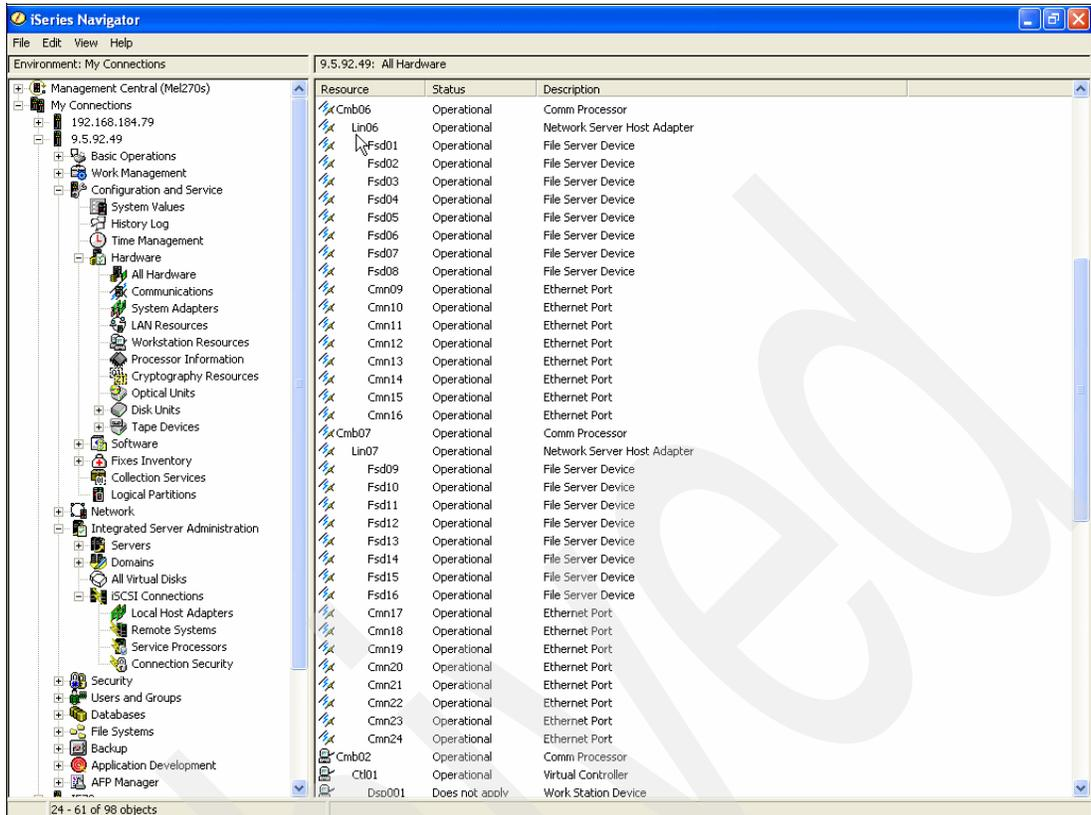

Figure 9-49 Identifying the iSCSI target HBA Resource ID - iSeries Navigator
1. Expand **Configuration and Service** → **Hardware** → **All Hardware** as shown in Figure 9-49 on page 420. Record the Resource ID, L n06 in this example.